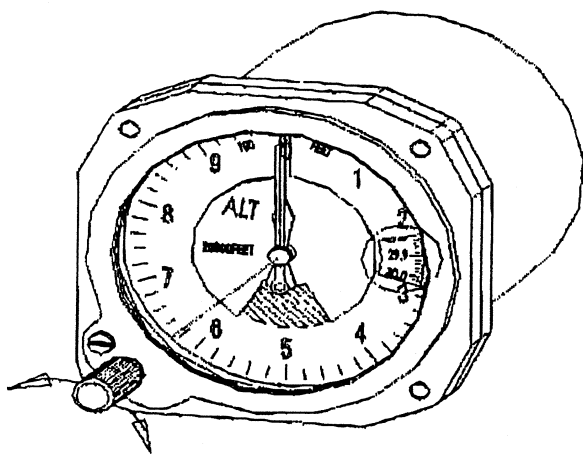

Figure 3
1. Begin by first setting the altimeter to the exact altitude of the field by turning the knob. (Figure 3)
2. Locate the screw near the main adjusting knob, just to the left and a little above on the instrument bezel. (Figure 3)